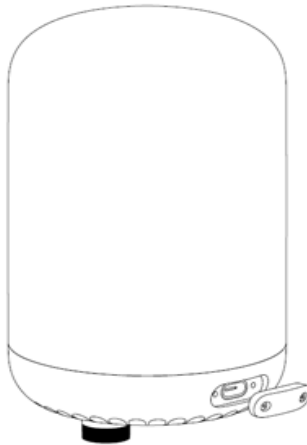

Figure 9 Sliding the SIM card into the SIM card slot
- 2** Use the screwdriver to remove the two screws that secure the SIM card cover of the FastMile 5G mmWave Receiver. Figure 9 shows the location of the screws.